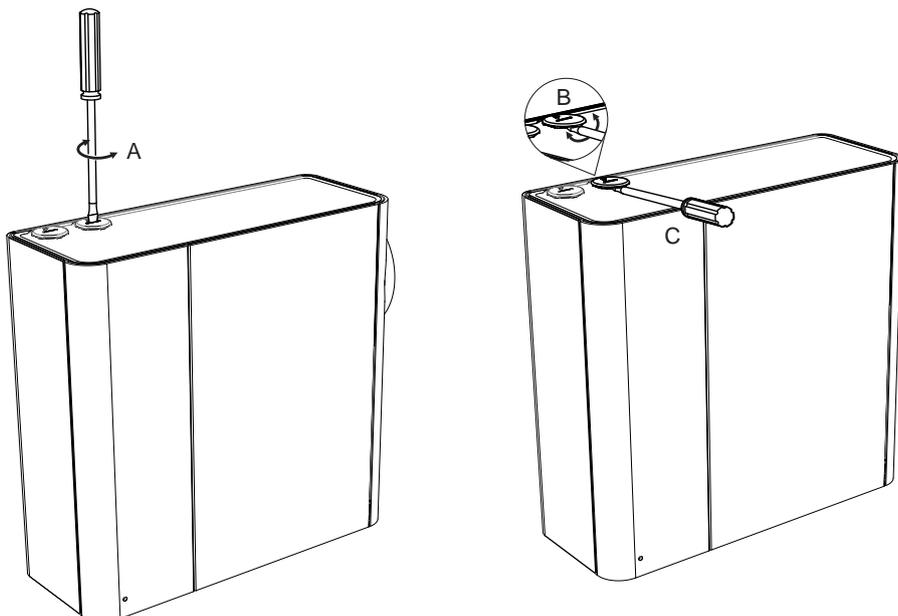

Figure 4-2: Remove Cable and Conduit Inlet Plugs
- Remove cable inlet plugs as required. Place a large screwdriver in the large slot and twist (A), or use a small screwdriver in the side slots (B) to lever the plug out (Figure 4-2). Use the edge of the detector (C) for a lever point to avoid marking the case.